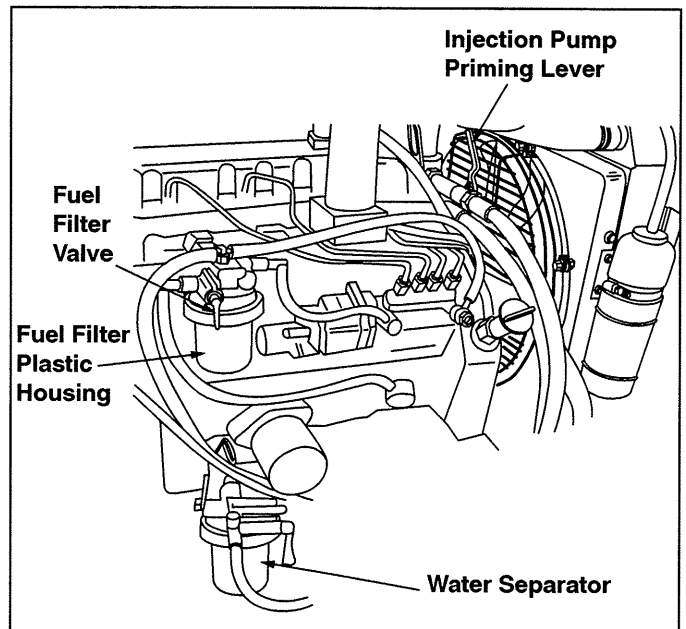

Figure 4-5. Fuel Filter
Unscrew the clear plastic housing (Figure 4-5) to change the filter element and clean dirt from the housing. Clean around the filter housing. Put oil on the seal of the new filter element. Install the fuel filter and hand tighten.
1. Turn the fuel filter valve (Figure 4-5) to the open position (vertical).
4. Return fuel filter valve (Figure 4-5) to the closed (horizontal) position.